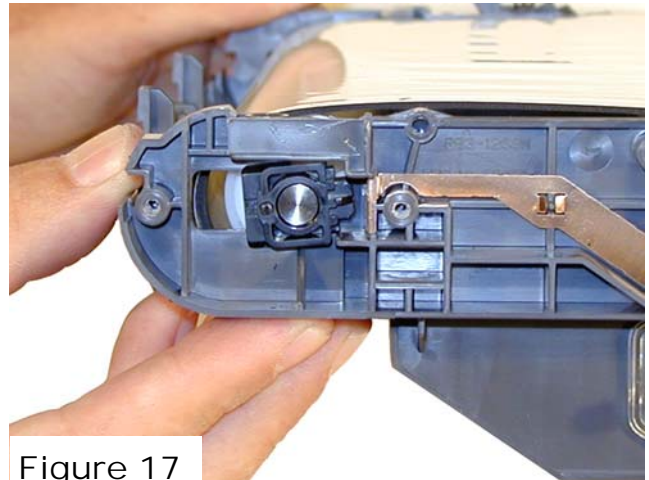

Figure 17
12) Slide the front roller back so the black and white bushings can be removed. Remove the bushings. See **Figures 17 & 18**